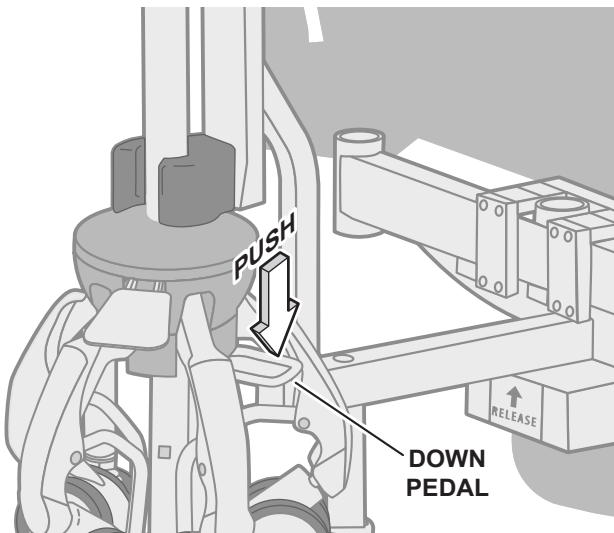

Figure 10. Push the Down Pedal
2. Using your foot, apply firm downward force on the down pedal until the legs automatically lock in the extended position (Figure 10) and a loud click is heard.